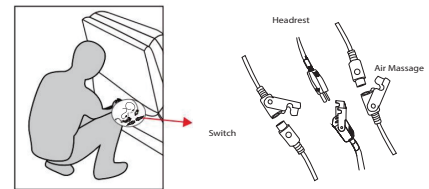

Figure 4
Flip up the back flaps, connect the Headrest, Switch and Air Massage cables between the Backs (A B) and the Seat (D). (See Figure 4.)